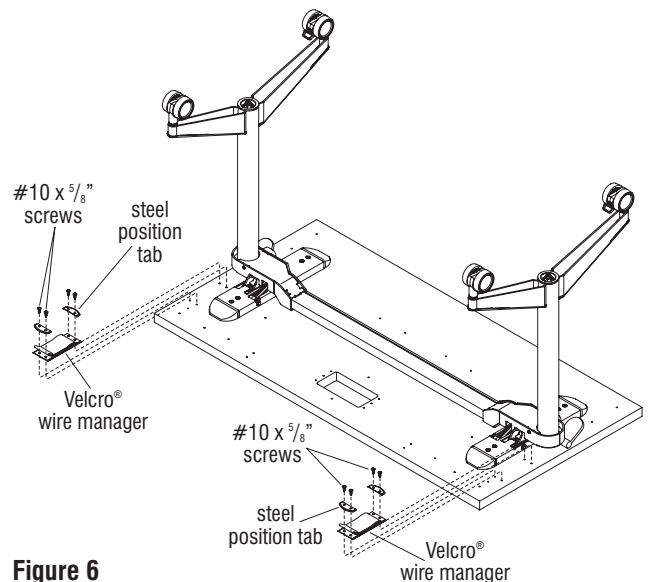

Figure 6
1. Position the two Velcro® wire managers (Figure 6), four if table length is 60"-72", unless wire trough is to be installed (Detail C), over the pre-drilled holes in the underside of the tabletop where illustrated. Locate and place two steel position tabs, one at each end over the mounting holes in the wire manager, then secure using four #10 x 5/8" screws, through the two position tabs, wire manager mounting holes and into the tabletop. Do not over-tighten (Figure 6).